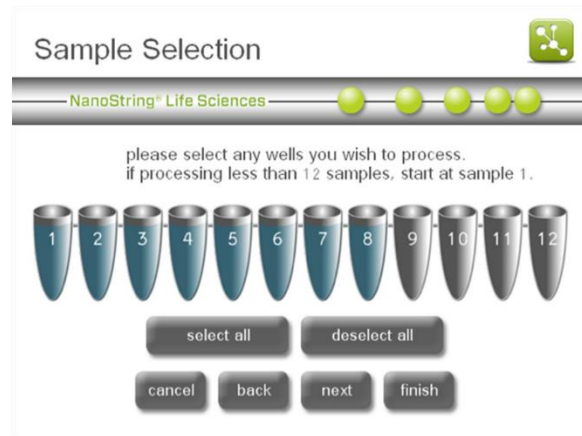

Figure 15: The 'Sample Selection' screen.
- The 'Sample Selection' screen will appear (**Figure 15**). Select the sample positions that will be processed. Blue tubes will be processed, and grey tubes will not be processed. If processing fewer than 12 tubes, begin with tube 1. Press **next**.